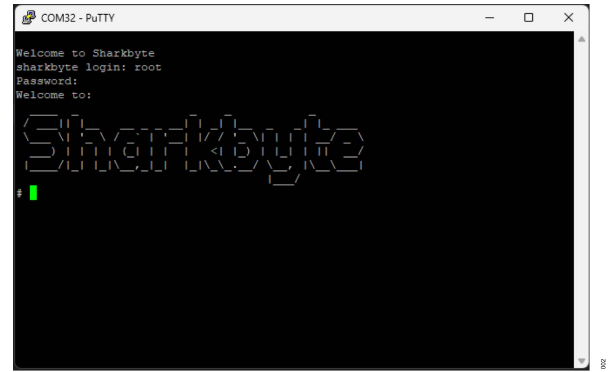

Figure 2. ADMX6020 Terminal Window
- ▶ The terminal window matches the window as shown in Figure 2.